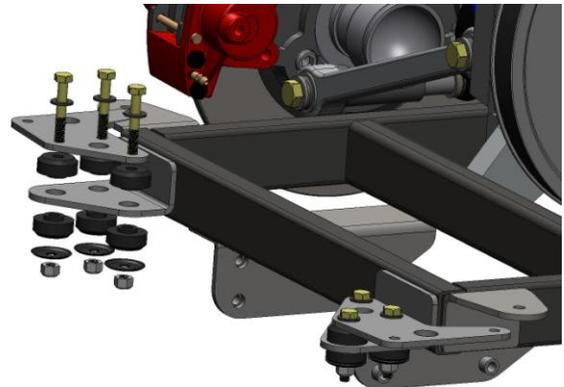

Figure 19
- Install muffler brackets to body mount frame using hardware in supplied kit. Note orientation in illustration. **Figure 19.**